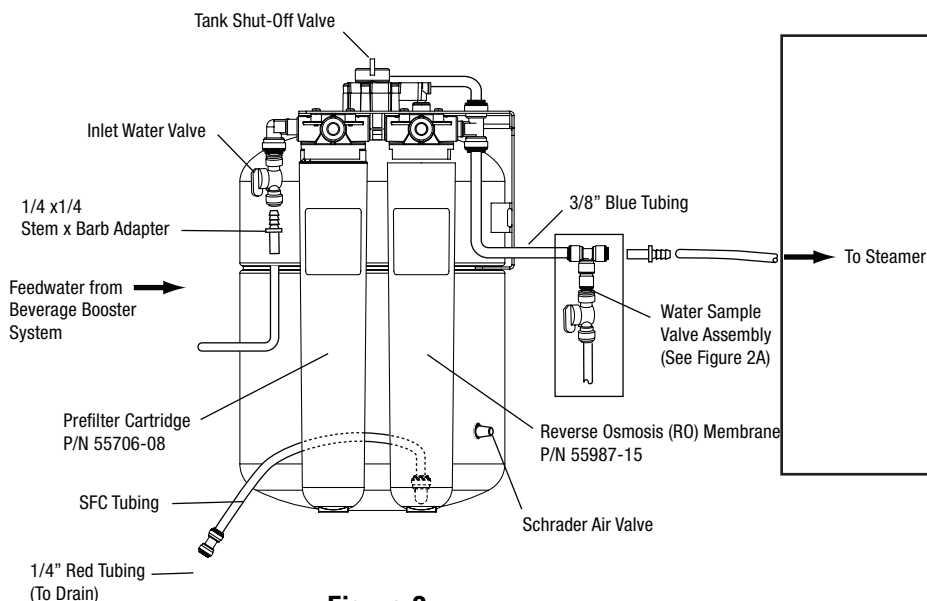

Figure 2
NOTICE: The FlashGard-HP Reverse Osmosis Water Filtration System requires a minimum 60 psi (413.7 kPa) inlet water pressure. To ensure adequate inlet water pressure, it is recommended that the system be plumbed after the beverage booster pump but before the beverage water filtration system. Refer to Figure 2 for proper tubing connections.
- 4) Cut a piece of the 3/8" blue tubing (included). Connect one end to the outlet tee on the RO system and the other end to one side of the Water Sample Valve Assembly (See Figure 2).
- 5) Run length of tubing from the other end of the Water Sample Valve Assembly to the inlet of the steamer. See Figure 2.
- 1) Close tank shut-off and inlet valves (see Figure 2).
- 8) Open tank shut-off and inlet valves (see Figure 2).
- 9) Open tank shut-off and inlet valves (see Figure 2)